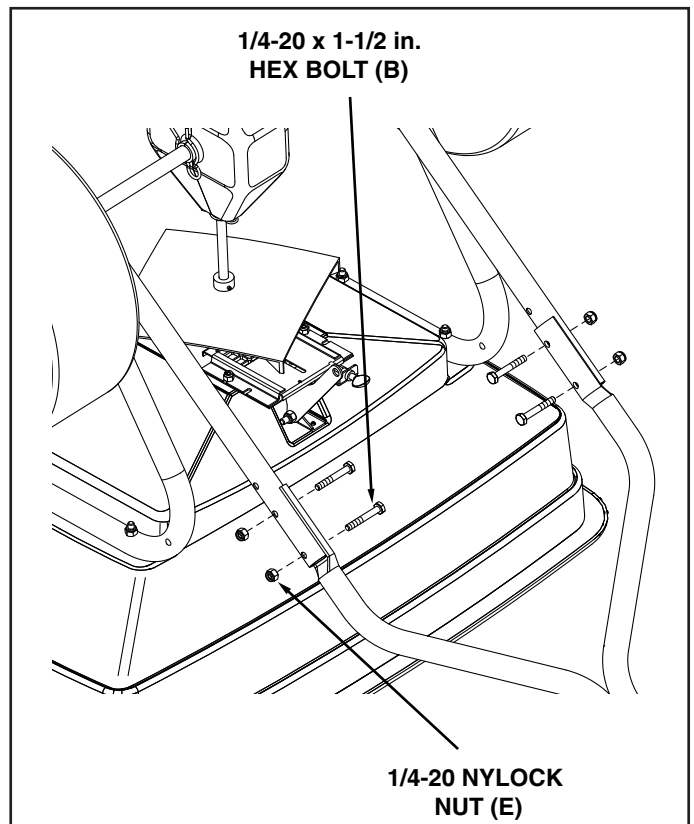

FIGURE 3
6. Install an upper handle to each lower handle using four 1/4 x 1-1/2 in. bolts and nylock nuts. Do not tighten at this time. See figure 3.